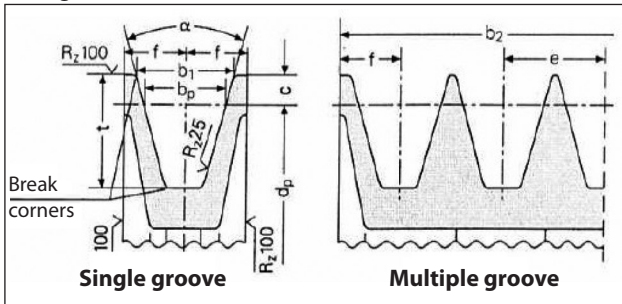

Fig. 8
- a) Use pulleys with V-belts with the size of the groove required/recommended by the manufacturer of belt used. In the absence of directions, follow Fig. 8 and the table in Fig. 9.